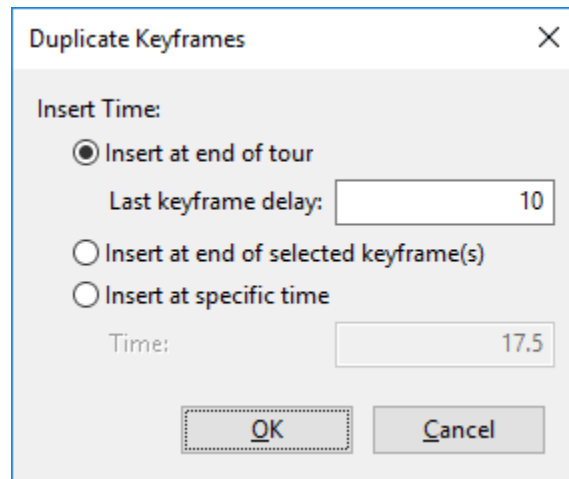

Figure 37. Duplicate Keyframes dialog
2. Right-click the keyframes and select **Duplicate**. This will open the **Duplicate Keyframes** dialog as shown in Figure 37.